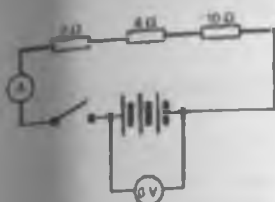

Figure 5.38
- 6 With the switch in Fig. 5.38 closed the ammeter reading will indicate:
- 7 A 6Ω resistor is connected in parallel with the three resistors of Fig. 5.38. With the